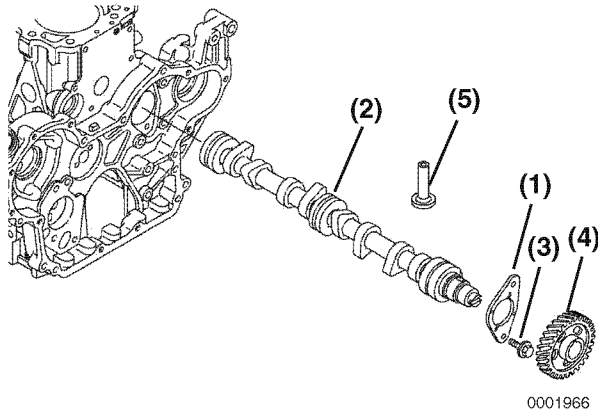

Figure 6-97
- Remove the two bolts (Figure 6-97, (3)) retaining the camshaft thrust plate (Figure 6-97, (1)).
- Rotate the engine in the engine stand so that gravity causes the tappets (Figure 6-97, (5)) to drop away from the camshaft lobes.
- Slowly pull the camshaft (Figure 6-97, (2)) assembly out of the engine being careful not to damage the front camshaft bushing.
- Remove the camshaft drive gear (Figure 6-97, (4)) only if the gear or camshaft require replacement. Use a knife-edge puller and a press to remove the gear. The gear is a shrink-fit and will need to be heated to 356° - 392°F (180° - 200°C) to remove.